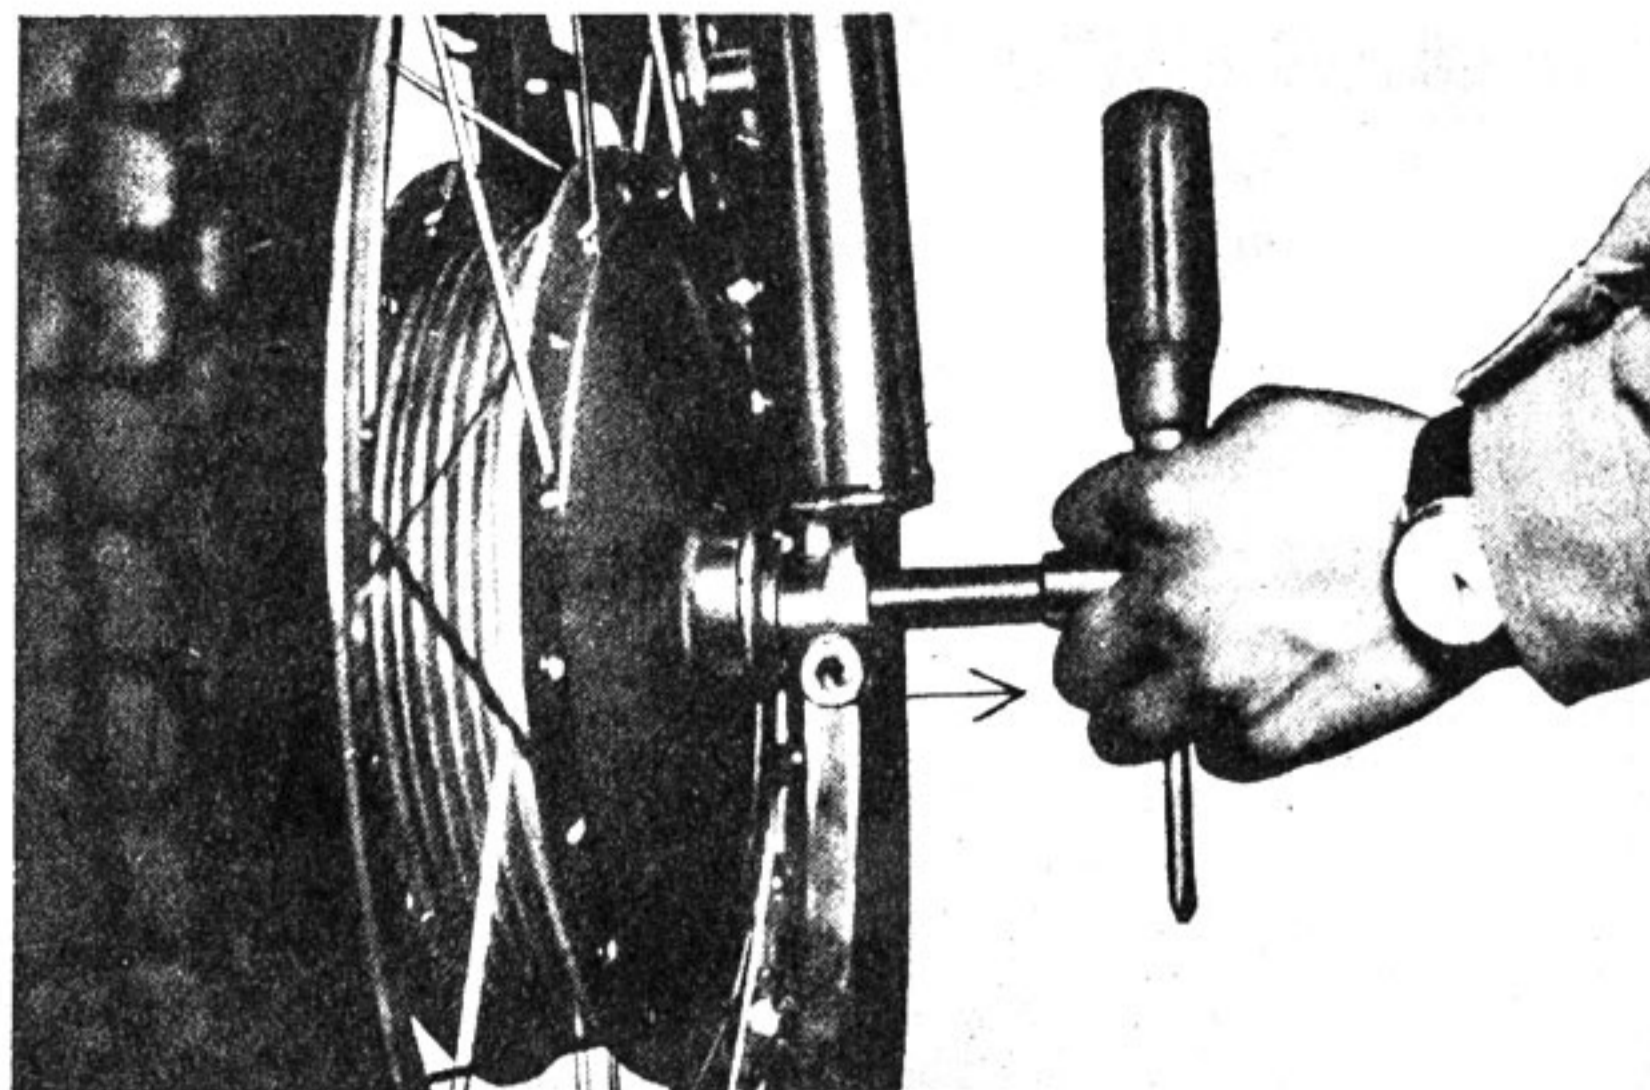

Fig. 5-1-5
(4) Pull out the shaft. (Fig. 5-1-5)